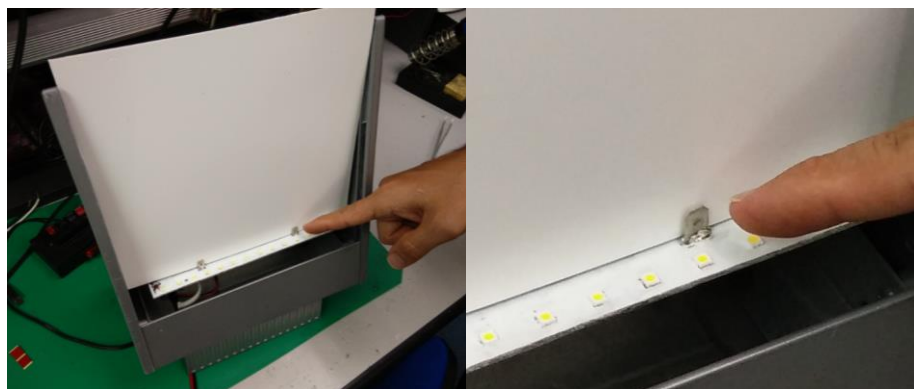

Figure 5: Reflector sheet position on ULE269VW
- Slide in the reflector sheet behind the pin on backlite aluminum plate as shown in Figure 5.